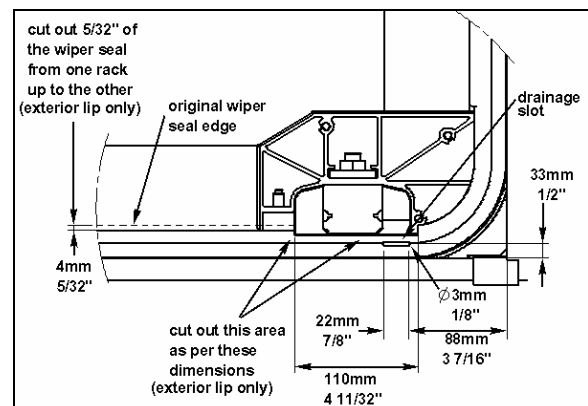

FIGURE 32: WIPER SEAL CUT-OUT
14. Cut out the exterior lip of the wiper seal as per FIGURE 32.